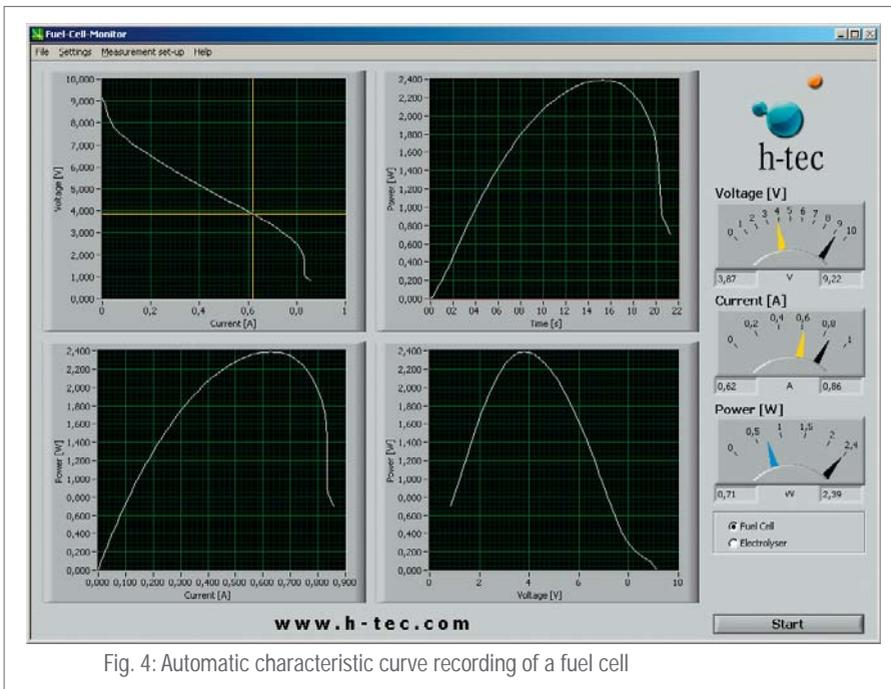

Fig. 4: Automatic characteristic curve recording of a fuel cell
- The FCM now automatically records the characteristic curve of the fuel cell from the no-load voltage to the short-circuit current, graphically displays the values and is again in standby mode afterwards (see Figure 4).